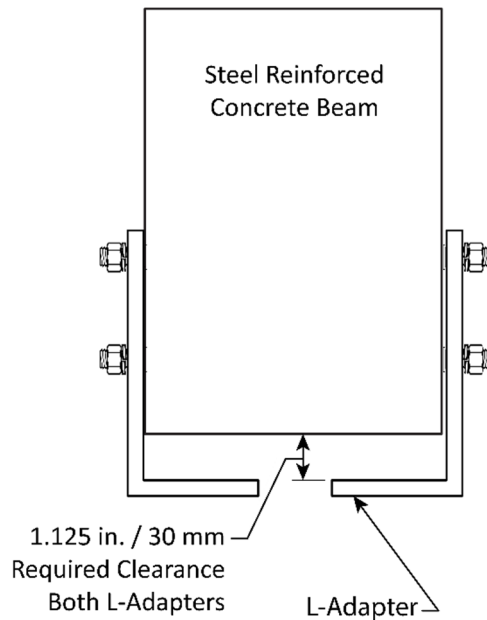

Figure 8
4. Place the L-Adapters against the Beam and adjust their position until a 1.125 in. / 30 mm clearance is achieved between the Bracket and the Beam. Refer to **figure 8**.